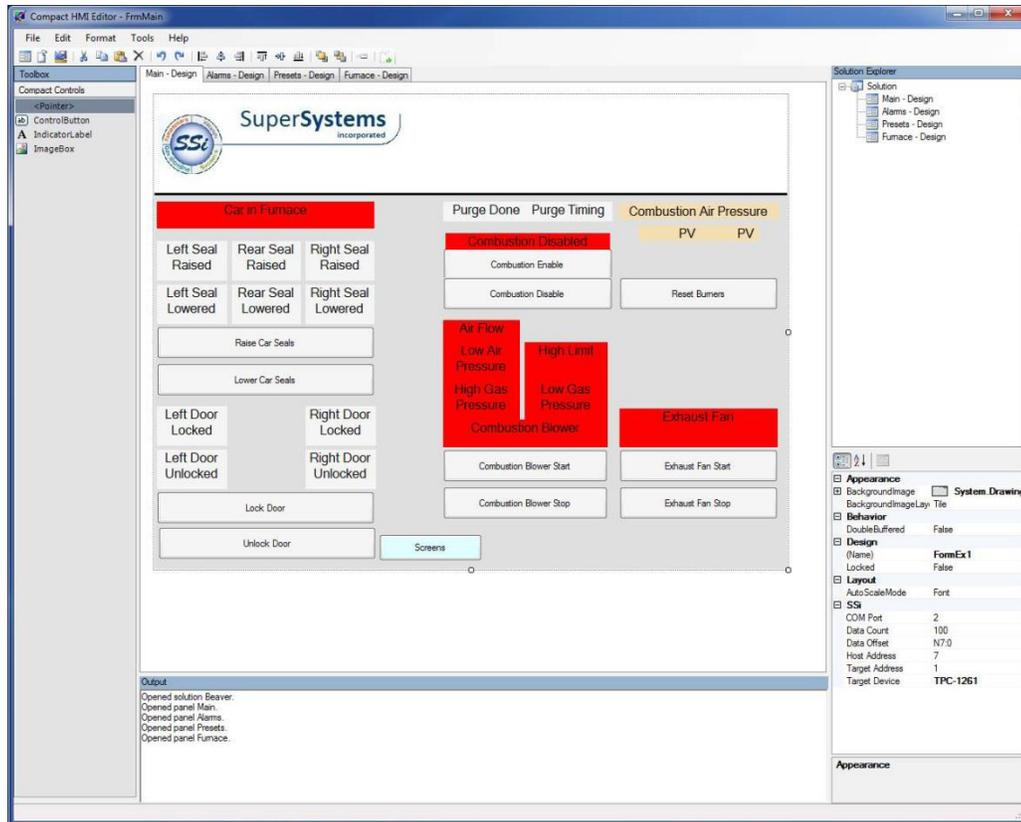
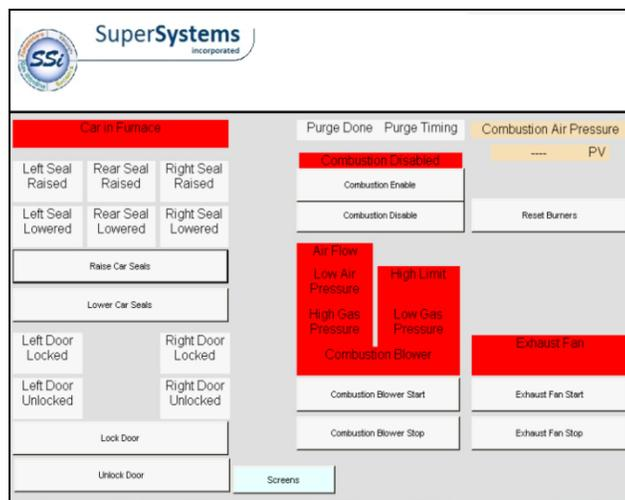

Figure 47 - Main Panel (Compact HMI Editor)
Figure 48 - Main Panel (Compact HMI - Touch Screen)
- **Main Panel.** The Main Panel provides an overview of essential furnace statuses (such as combustion status and high/low gas pressure alarms) and allows for control of essential furnace functions (such as locking and unlocking the furnace door). This is the Panel that will appear when the Compact HMI application is first opened on a compatible touch screen. The Compact HMI Editor view is shown in Figure 47; the Compact HMI (Touch Screen) view is shown in Figure 48.